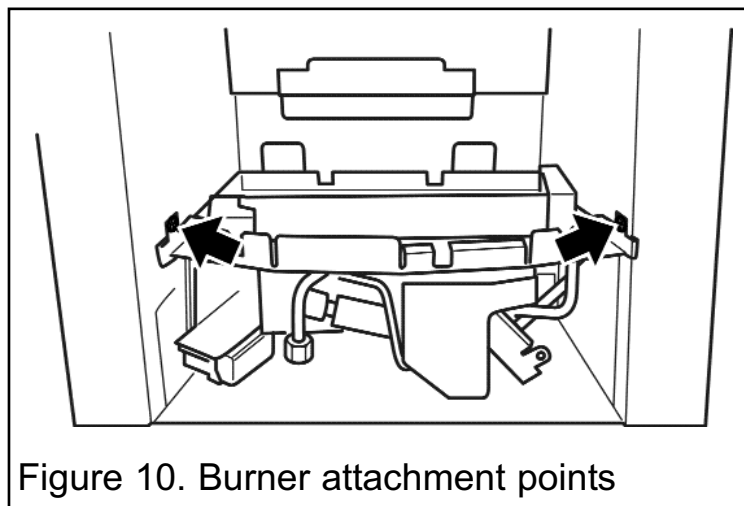

Figure 10. Burner attachment points
2. Detach the burner unit from the convector box by removing two screws (See figure 10). Lift the burner unit clear.